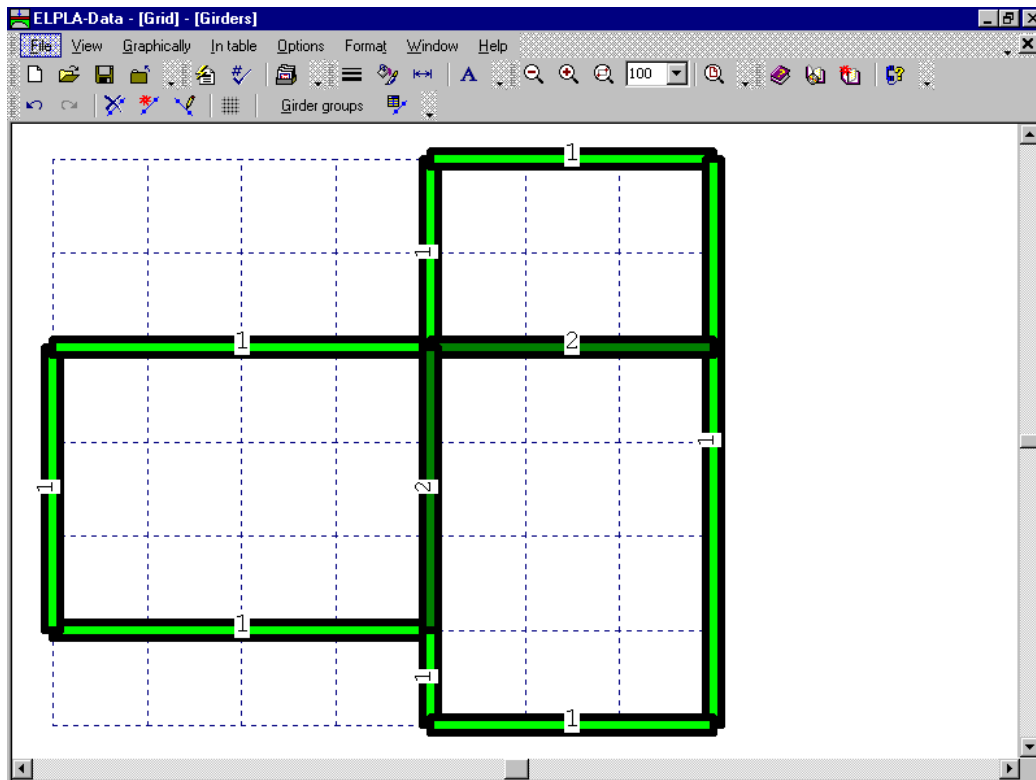

Figure 4-17 Girders on the screen
Repeat the previous steps to add the remaining girders on the net. After you have completed the definition of all girders, the screen should look like the following Figure 4-17.
- Choose "Save girders" command from "File" menu in Figure 4-17 to save the data of girders
- Choose "Close girders" command from "File" menu in Figure 4-17 to close the "Girders" embedded program and to return to the main window of *ELPLA-Data*